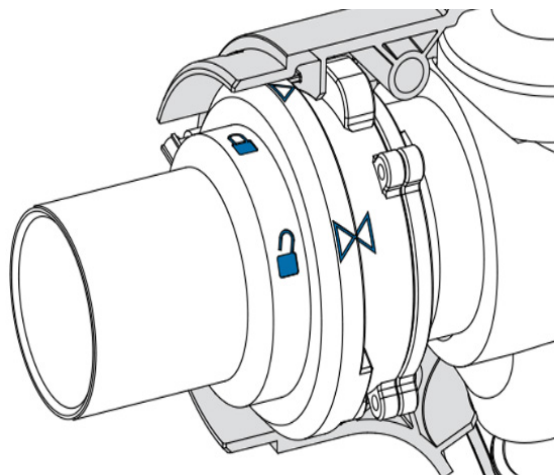

Figure 9 - Flowhead subject end in the unlock position.
- Turn the flowhead subject end anticlockwise to the unlock position and remove, giving access to the Lilly Screen (Figure 9).